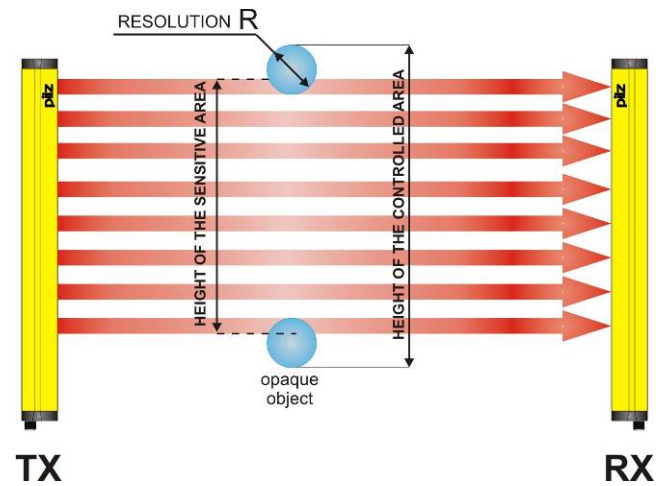

Fig. 2
- Height of protected field: Here it is important to distinguish between the “Height of the sensing area” and the “Height of the protected area” (Fig. 2).